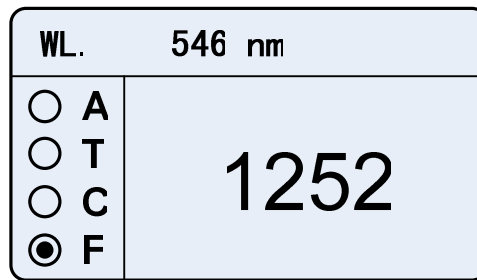

Fig. 4-11
5) Pull the samples in the light path. Then its concentration will be displayed on the screen. automatically (Fig.4-11)